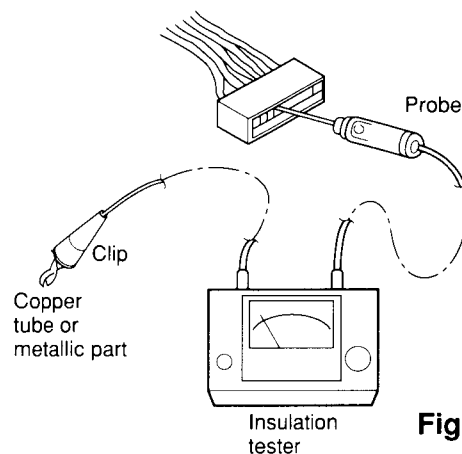

Fig. 46
④ Measurement of Insulation Resistance for Electrical parts
- Disconnect the connector of the desired electric part from terminal plate, P.C.B. Assy, etc. (Fig. 46)